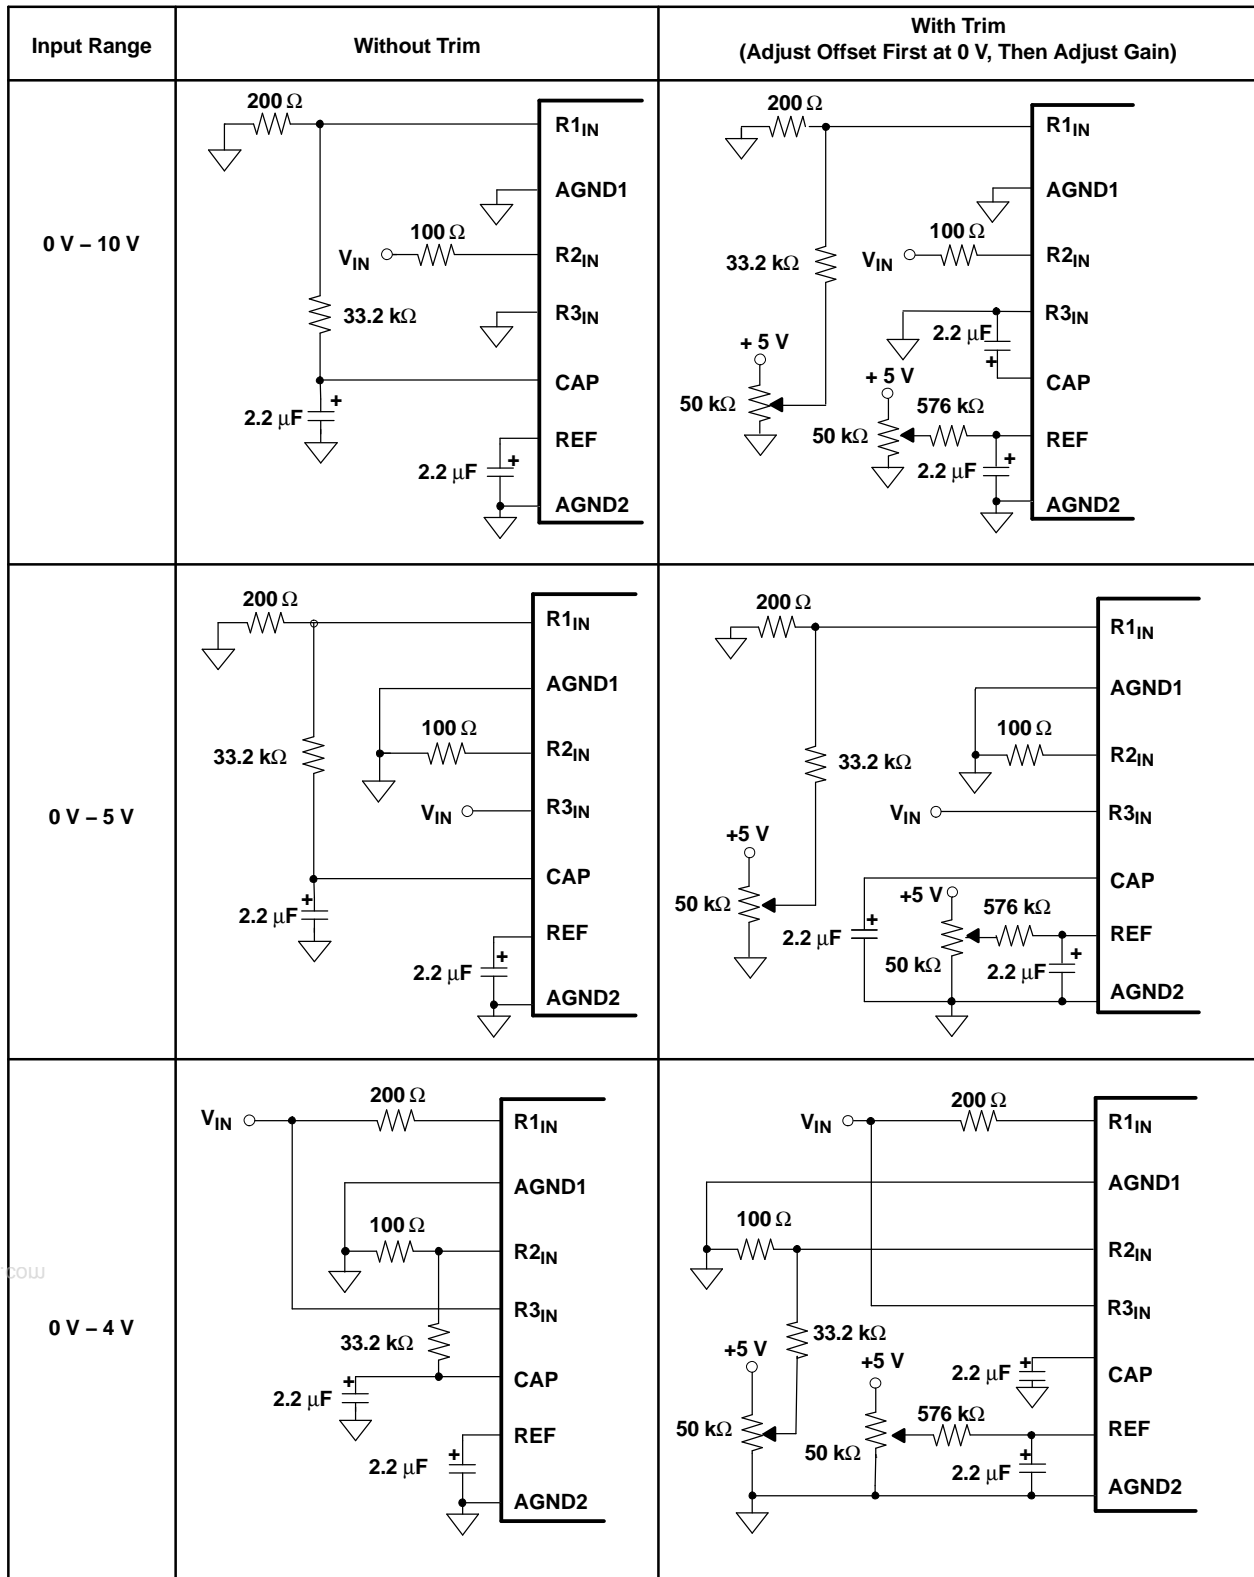
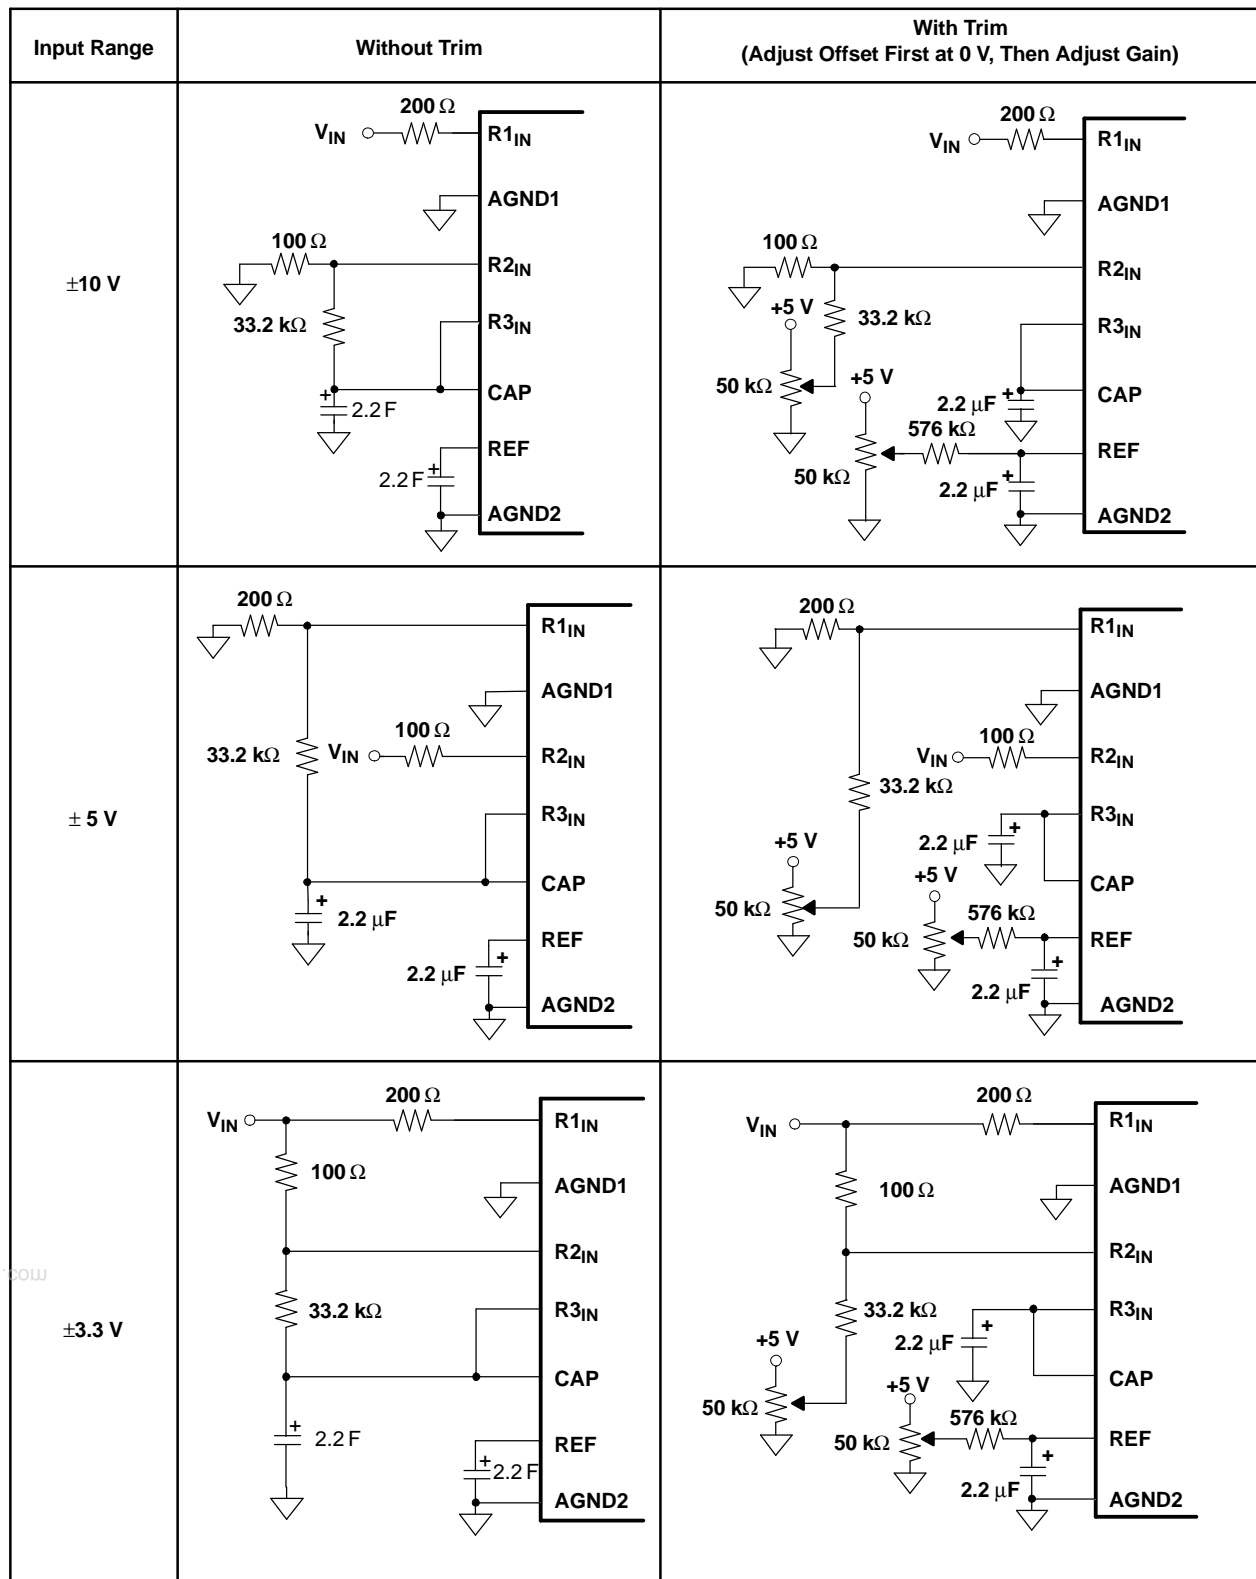

Figure 29. Offset/Gain Circuits for Unipolar Input Ranges
Figure 30. Offset/Gain Circuits for Bipolar Input Ranges
**Table 3. Input Range Connections (see Figure 29 and Figure 30 for complete information)**